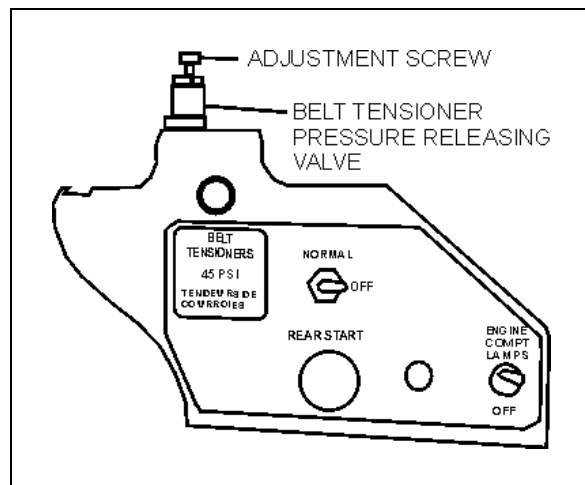

FIGURE 10: BELT TENSIONER VALVE
- Locate the A/C compressor belt tensioner pressure releasing valve (Fig. 10). Turn pressure releasing valve handle counterclockwise in order to release pressure in belt-tensioner air bellows and loosen belts. Remove the belts.